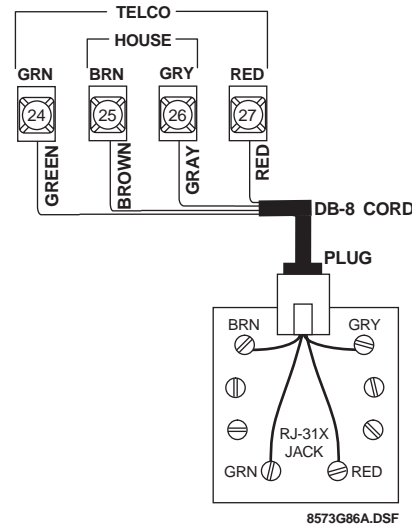

Figure 35. Connecting the DB-8 Cord to the Panel and RJ-31X Jack
1. Connect the green, brown, gray, and red flying leads from the DB-8 cord to panel terminals 24, 25, 26, and 27 (see Figure 35).
2. Insert the DB-8 cord’s plug into the RJ-31X (see Figure 35).